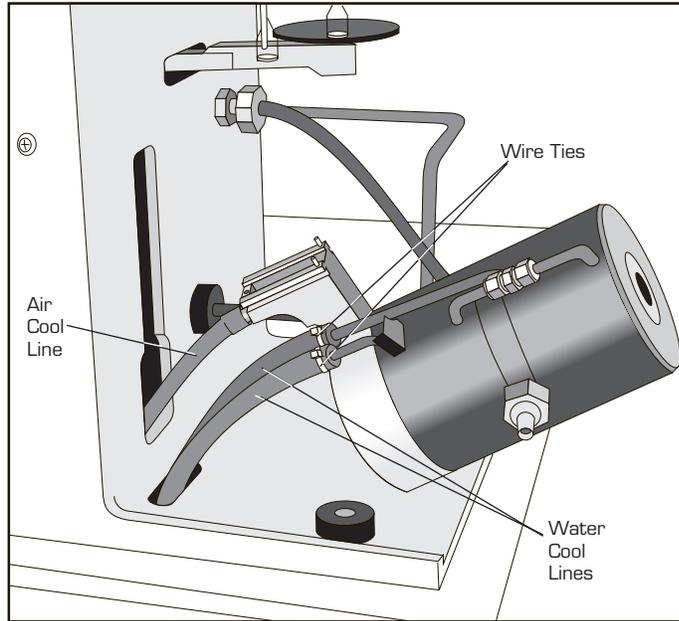

Figure D.5
9. Plug the AIR COOL line into the base of the EGA furnace, then connect the two water-cooling lines, making sure that the lines are not crossed. See Figure D.5 for the correct placement of the lines. Be sure to install the wire ties (supplied in the kit) around the cooling lines to prevent water leakage.
1. Plug the AIR COOL line into the bottom of the furnace arm/base as shown in Figure D.5 on page D-11.